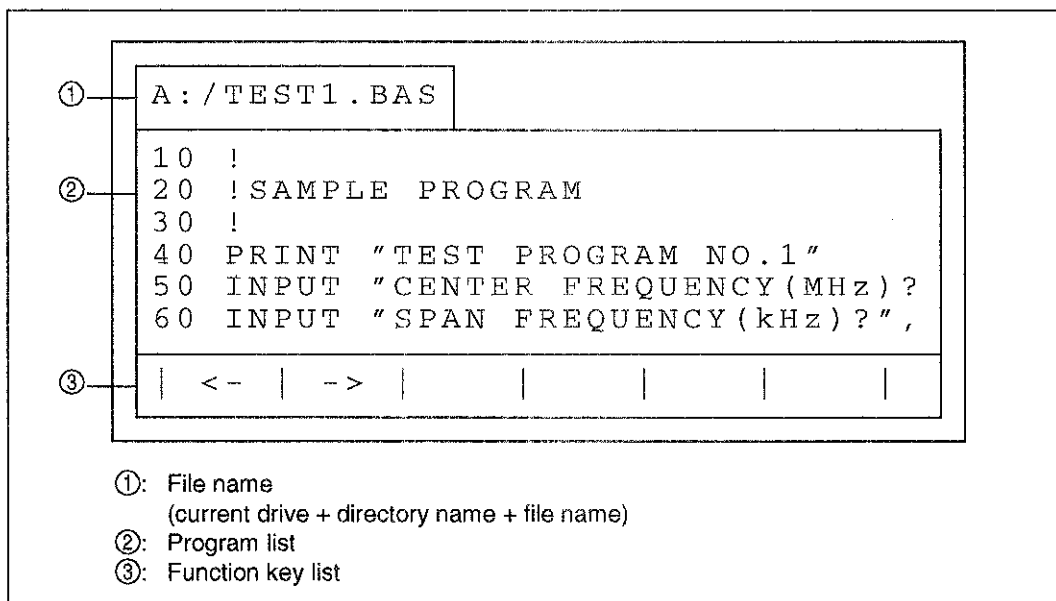

Figure 4-31 TYPE Display Screen
④: The file attributes are indicated as follows;
⑦: The function key list indicates the function keys available in the FILE mode.
⑧: The scroll bar indicates the ratio of the displayed files to all of the files included in the current directory.
(4) TYPE (file contents display) screen
When TYPE (K1) is selected with the function key from the FILE mode, a screen like that shown in Figure 4-31 appears if the working file is a text file. (For details, see (1) in subsection 4.1.3 "FILE Mode".)